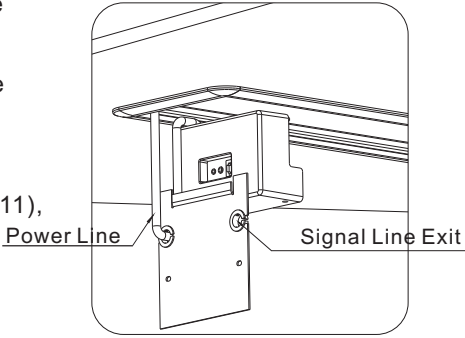

Figure21
- 2) Install the large and small baffle (figure 21)